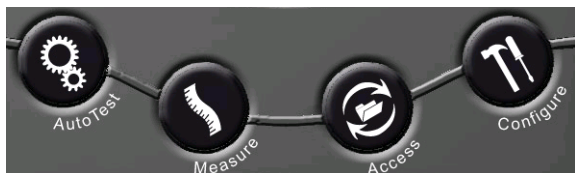
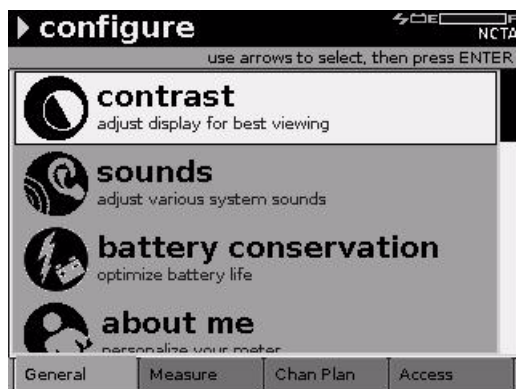
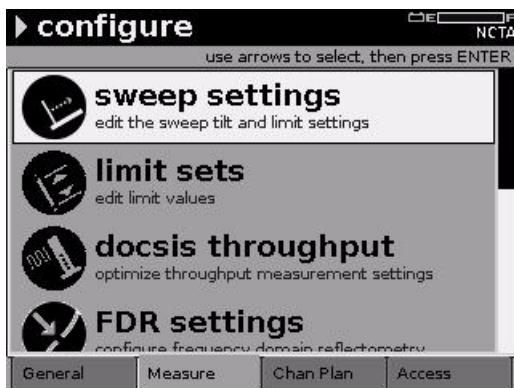
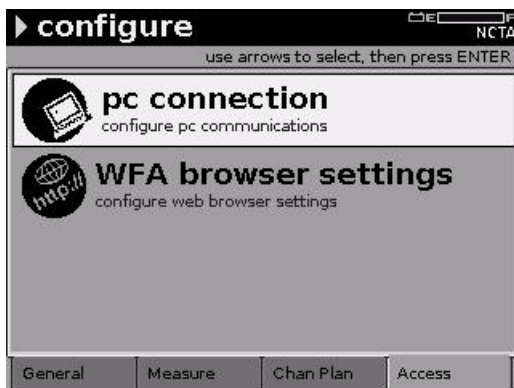

Figure 5 DSAM Meter Mode Keys
Figure 11 Configure Mode General Menu
Figure 12 Configure Mode Measure Menu
Figure 14 Configure Mode Access Menu
- Four **Mode** keys (Figure 5) used to access the meter's four primary functional modes
Using the mode keys Use the mode keys (Figure 5) to directly access the top level menu of features associated with each mode.
Press the **Configure** mode key to display the Configure mode menu (see Figure 11 on page 24).
Selecting a Configuration Mode To view the Configure General menu (see Figure 11 on page 24), press the **Configure** mode key (Figure 5 on page 18), then press the **General** softkey.
Measurement Configuration To view the Configure Measure menu (Figure 12 on page 26), press the **Configure** mode key (Figure 5 on page 18), then press the **Measure** softkey.
To view the Configure Channel menu (Figure 13), press the **Configure** mode key (Figure 5 on page 18), then press the **Channel Plan** softkey.
Access Configuration To view the Configure Access menu (Figure 14), press the **Configure** mode key (Figure 5 on page 18), then press the **Access** softkey.